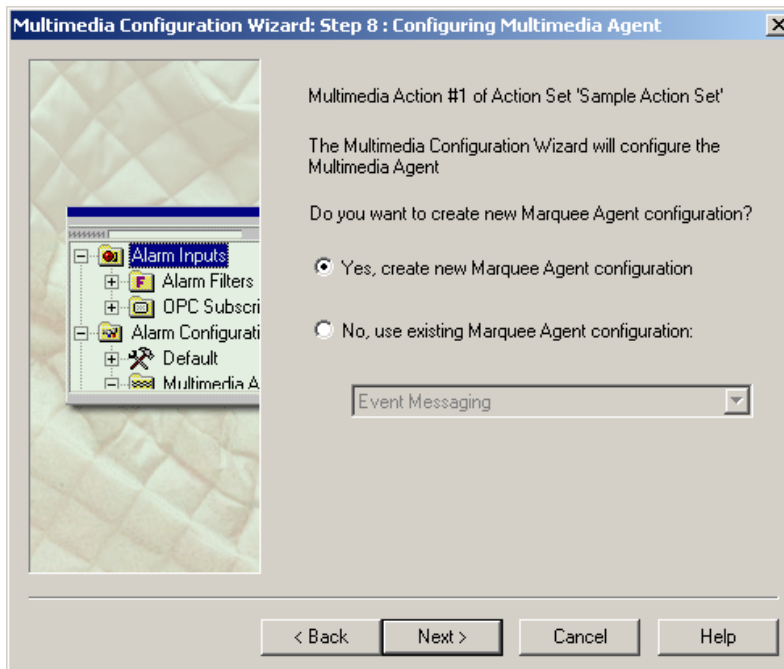

Figure 3.9. Step 8: Configuring a Multimedia Agent
- Once you have specified a multimedia agent, you will be prompted to create a new configuration or specify an existing configuration for that agent, as shown in **Figure 3.9**. To create a new agent configuration, select the